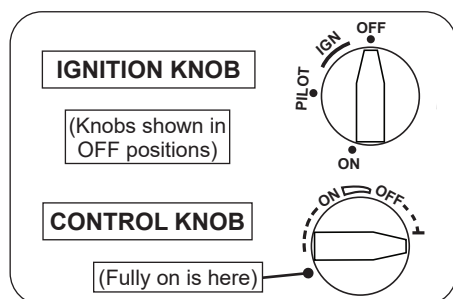

Fig. 26-1 Ignition and control knobs
2. Locate the valve on the unit. Push in the ignition knob slightly and turn clockwise ↻ to **OFF** (see Fig. 26-1).
5. While still holding the knob in, turn the knob counterclockwise ↺ to **PILOT** until you hear a click (piezo igniter will activate and light pilot). Continue to hold the knob in for about one (1) minute after the pilot is lit. Release the knob and it will pop back out. The pilot will remain lit. See Fig. 26-1 and 26-2. If it goes out, repeat steps 2-5.
1. Ensure the pilot is burning. Turn the ignition knob counterclockwise ↺ to **ON** (see Fig. 26-1).
2. Turn the control knob counterclockwise ↺ to the fully ON position to ignite the burner (see Fig. 26-1). The valve will open and the burner will light.
To shut down the main burner (pilot will remain lit), turn the control knob clockwise ↻ to the fully OFF position (see Fig. 26-1).
To shut down the burner and pilot (total shutdown), turn the control knob clockwise ↻ to the fully OFF position, and push in the ignition knob slightly and turn clockwise ↻ to **OFF** (see Fig. 26-1).